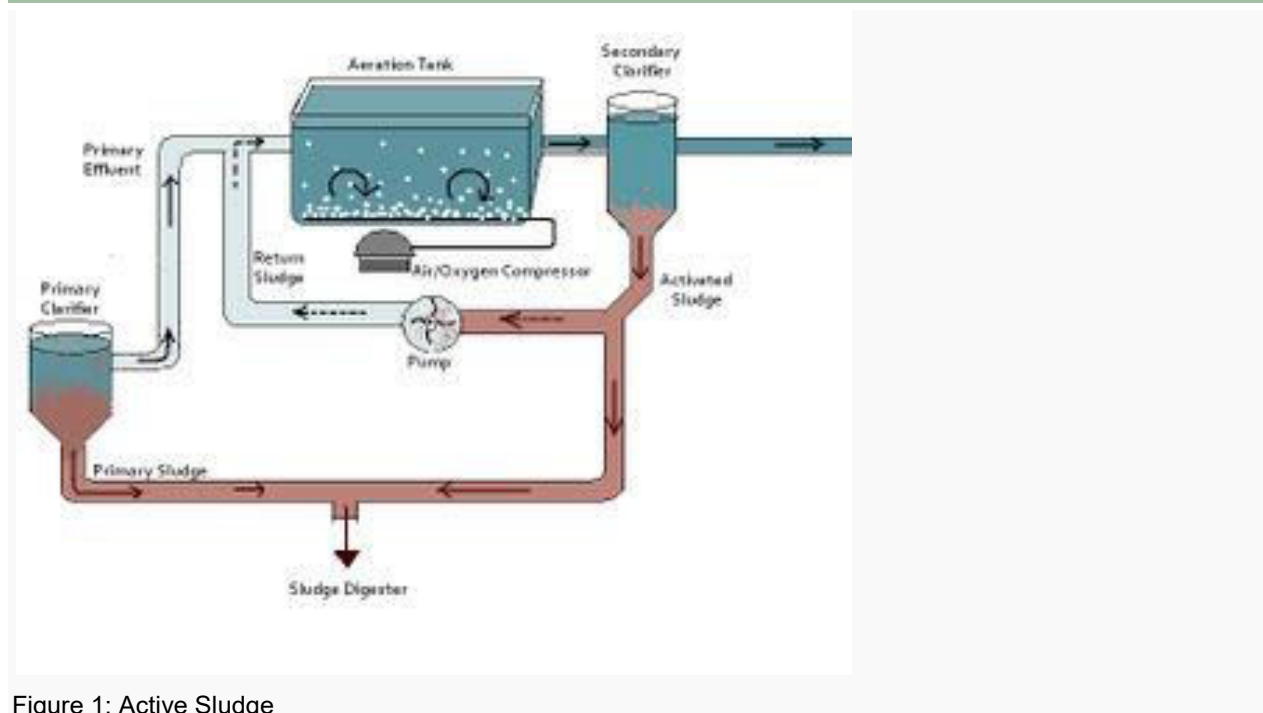

Figure 1: Active Sludge
**Process:** During the activated sludge process primary effluent flows into an aeration tank, where it is mixed with microorganisms. The aeration tank injects a steady supply of oxygen or air into the wastewater, ensuring that the organisms have an adequate supply of oxygen needed to breakdown the organic matter that remains in the effluent. The effluent then flows into secondary settling tanks. At this point the sludge goes in one of two directions; 1. back to the aeration tank, this is because the return sludge contains a large amount of microorganisms that will rapidly breakdown organic matter, or 2. to the sludge digester[4]. The treated water will enter the tertiary treatment stage; here it will go through the final treatment stage before it is released into a natural water system. Figure 1 is an example an active sludge system.